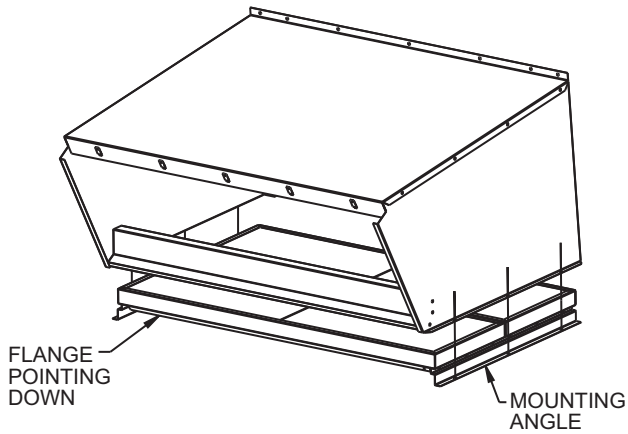

Fig. 27 — Bottom Filters Installed with Flange Pointing Down
12. Attach filter track under the hood assembly. See Fig. 27.